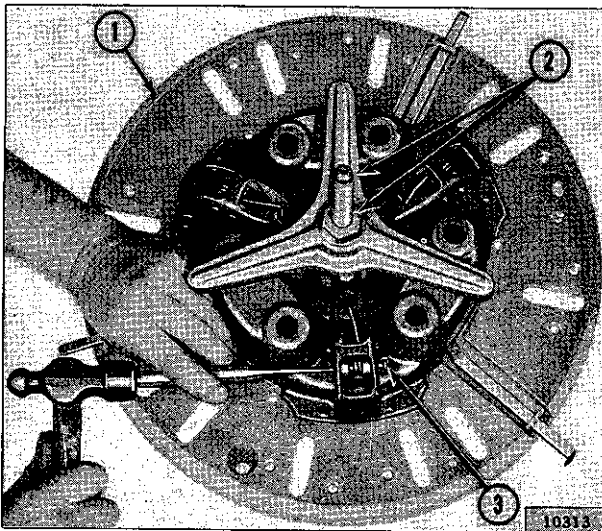

FIG. 194—DISASSEMBLING ROCKFORD CLUTCH
- c. Remove retainer ring from outer pin on each lever. Drive out the outer pins only as shown in Fig. 194.